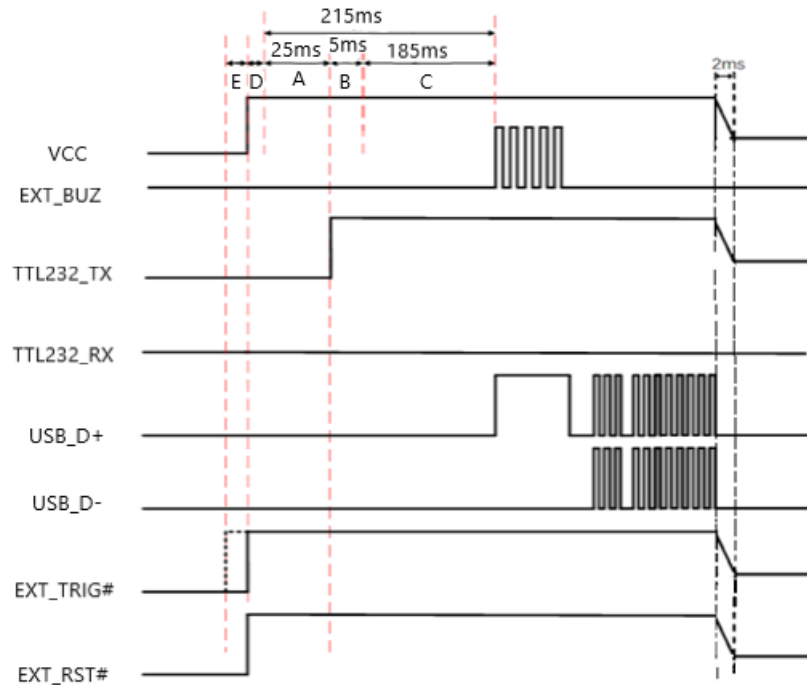

Figure 4-1
4. The N1-ER has a 100K pull-up on the EXT_TRIG# signal. During the period between power-on and bootloader execution, the user should not lower the EXT_TRIG# signal. If EXT_TRIG# signal is set high before power-on, it should meet the duration of E (E=0~1ms) as shown in Figure 4-1. Levels of other signals are kept low during power-on to prevent abnormal function.
When using the external IO port as a trigger output, note that high and low levels must meet the requirements provided in Table 4-4. It is recommended to use the default floating or default pull-up IO port as the trigger pin. If you can only use the default pull-down IO port as the trigger pin, refer to the power-on timing sequence in Figure 4-1. When not triggered, ensure that the pin meets the high level requirements in Table 4-4.